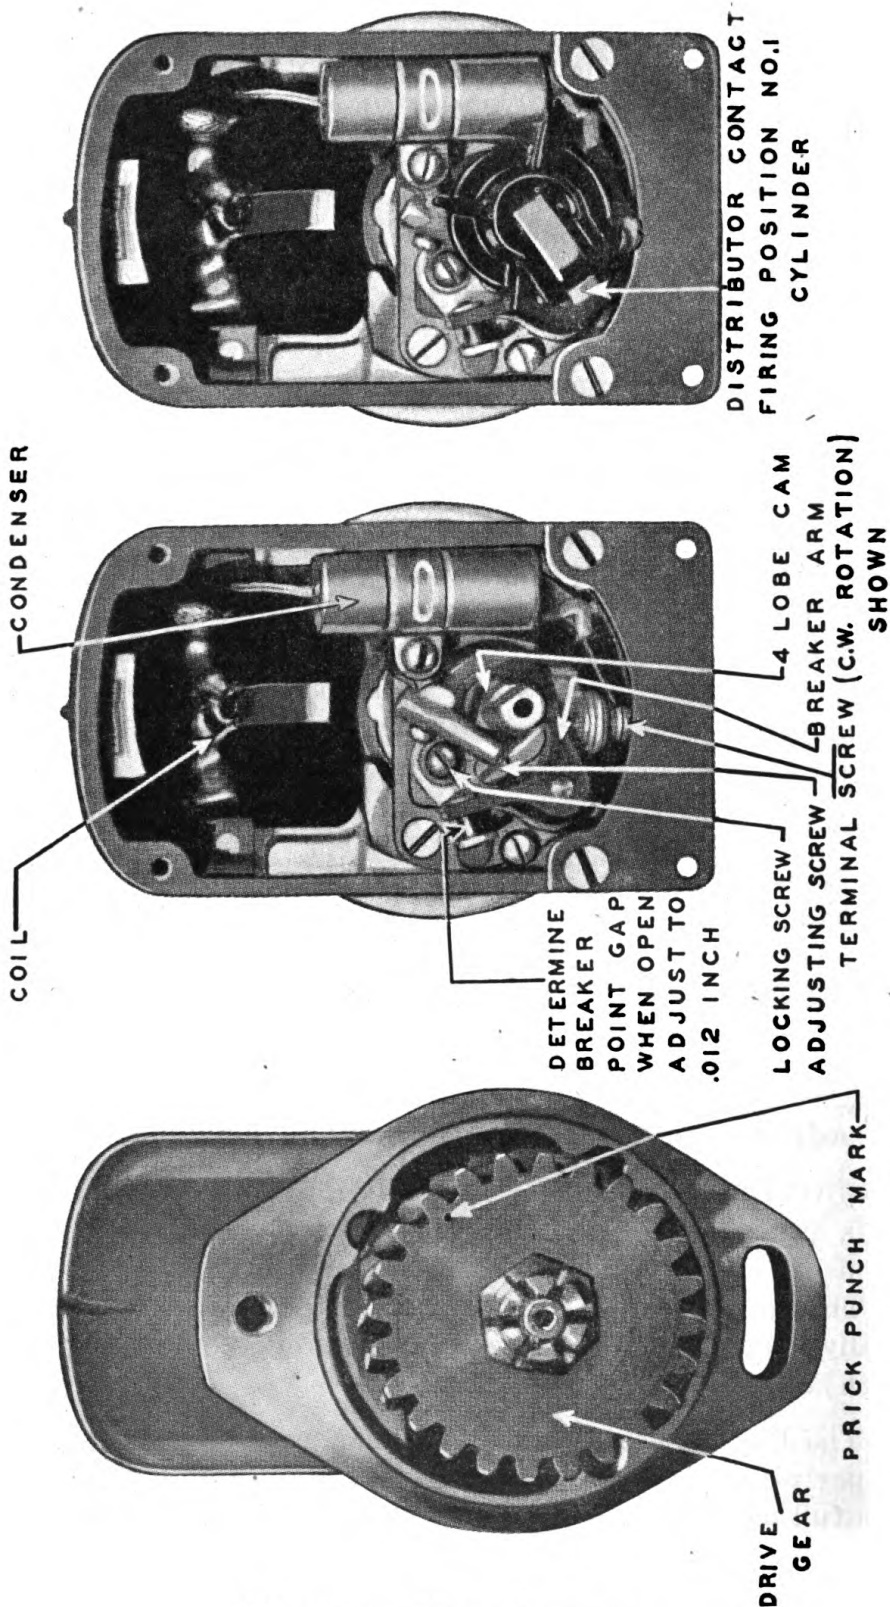

Figure 8.—Magneto parts
f. Service of breaker contact points.—Contact point adjustment necessitates removal of the distributor housing which has a sealed gasket joint with the metal housing. The contact points should be examined for evidence of pitting or pyramiding. A small tungsten file or fine stone may be used to resurface the points. If the points are worn or badly pitted, they should be replaced. Points should be adjusted to have an .018 inch gap at full separation. Adjustment is made by loosening the round head locking screw at the upper end of the stationary point bracket (figure 8), then turning the eccentric head adjusting screw until the proper gap is obtained and locking the assembly by tightening the round head screw. Always recheck the adjustment after tightening the locking screw to make sure the adjustment has not shifted.
i. *Special drive gear.*—The magneto is equipped with special drive gears, mounted directly on the impulse coupling. The gear is a slip fit on the extended coupling nut, since movement of the gear with respect to the coupling nut (and rotor shaft) occurs during the impulse period. If it is necessary at any time to remove the drive gear, special care must be exercised in reassembly. First, remove the entire end cap and turn the rotor until the contact segment is in firing position for No. 1 cylinder (figure 8). With the rotor in this position, fit the gear to the coupling lugs so that the prick-punch mark on the rim of the gear is in the position shown.